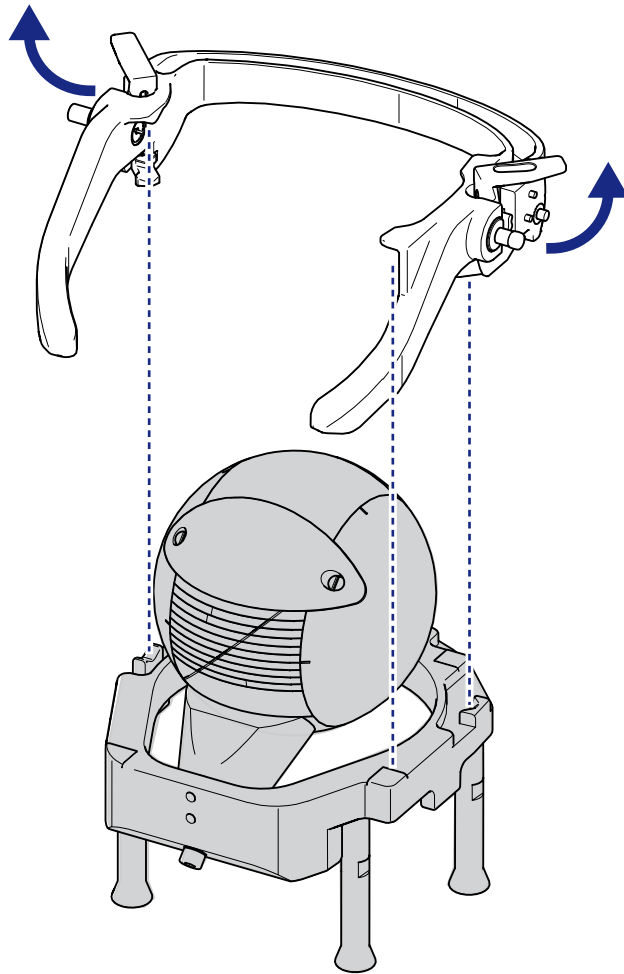

Figure 1.17 Attaching the Vantage frame adapter to the Dosimetry phantom
- b Release the left and right levers on the Vantage frame adapter, see Figure 1.17.